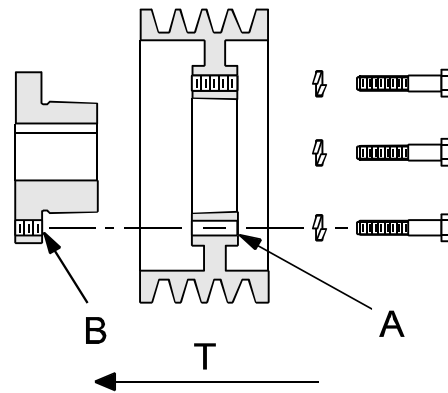

Figure 28: Hub Flange-In Dismounting
4. Note the mounting orientation of the sheave bushing flanges to decide if the sheaves have standard mounting (Flange-In) or reverse mounting (Flange-Out). This observation is important to ensure that the same mounting orientation is repeated after the sheave(s) has been replaced, **Figure 28**.
Refer to **Figure 28**.